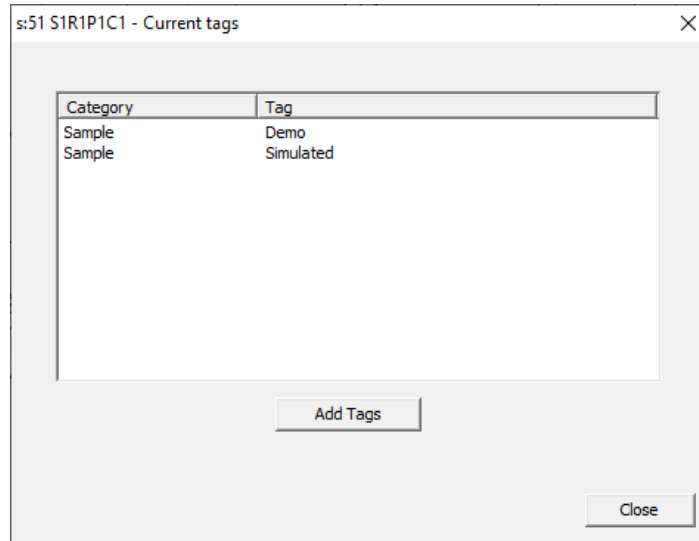

Figure 6-10. Current Tags dialog
2. Right-click on the waveform and click on the Database Tags menu item. The Current Tags (Figure 6-10) dialog will open. This dialog shows all tags that are associated with this waveform.